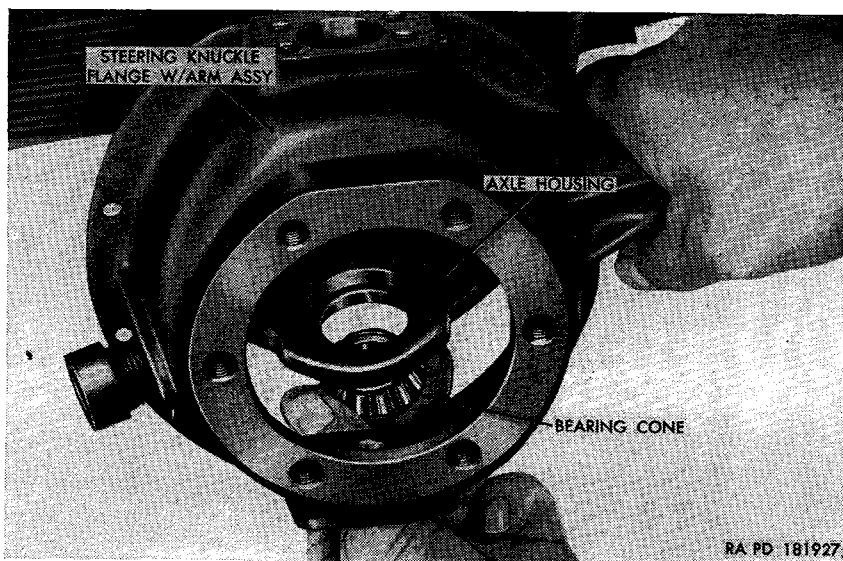

Figure 144. Installing steering knuckle flange and bearing.
- (2) Position a bearing cone in the cup in the upper section of the housing. Position the steering knuckle flange (fig. 144) with arm on the housing. Tilt the flange up and slide the other bearing cone, with the small end of the taper facing up, in from the rear of the flange and between the flange and the housing. Seat the cones in the cups by working the flange up and down.